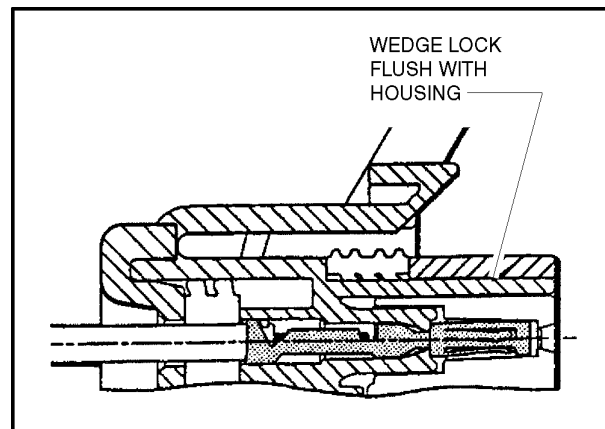

Figure 7-11. Connector Assembly Figure 4
4. Slide the wedge lock into the housing until it is flush with the housing (See Figure 7-11.).